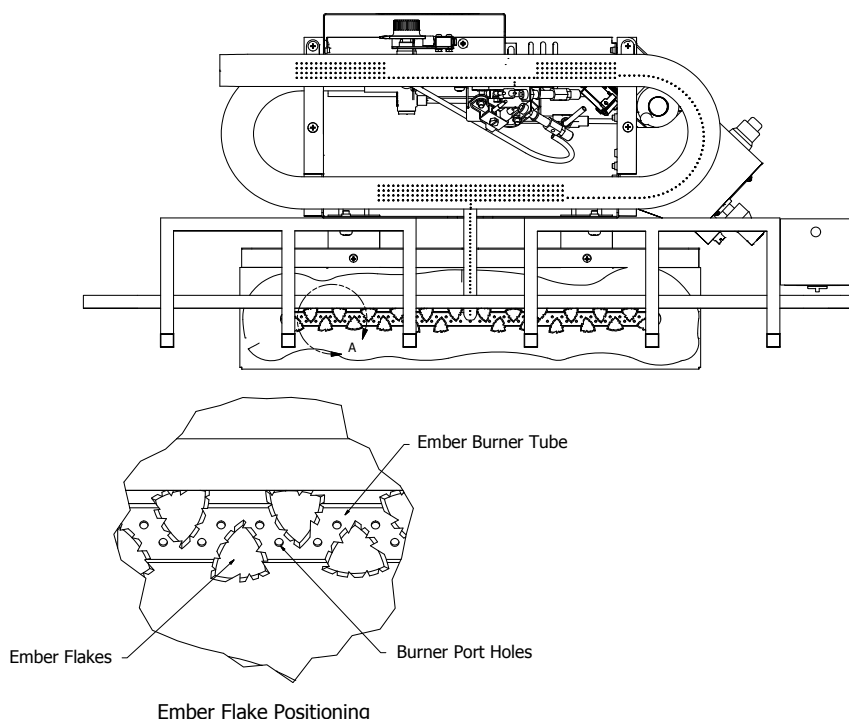

Fig. 25
3. Carefully place the shapes on the horizontal burner tube as depicted in Fig. 25.